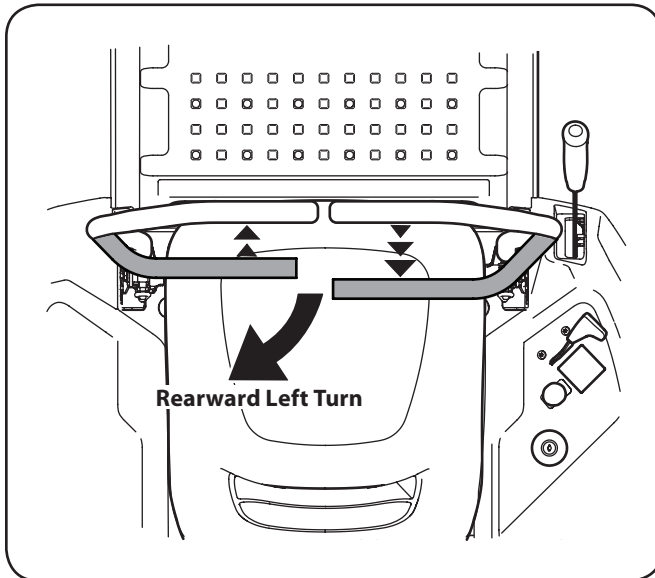

Figure 5-7
1. To turn to the left while traveling in reverse, move the left drive control lever forward of the right lever. See Figure 5-7.